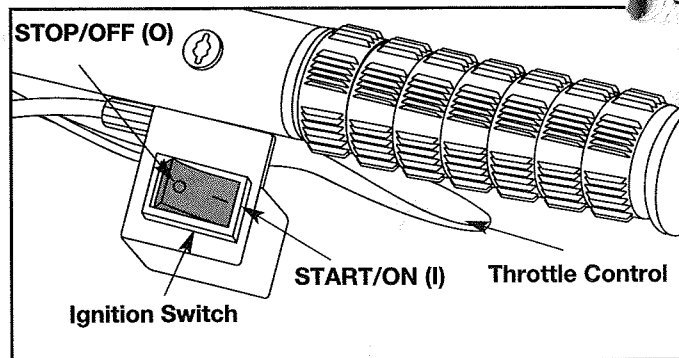
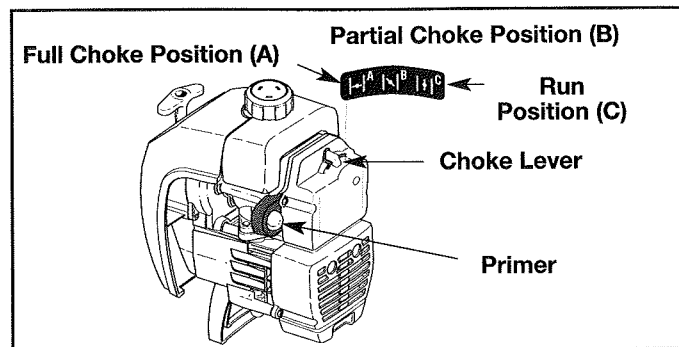
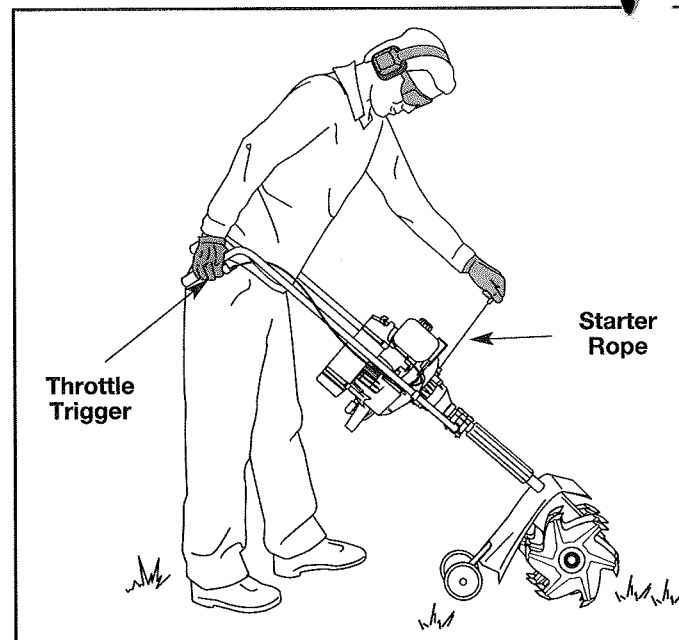

Fig. 15
Fig. 16
Fig. 17
2. Put the ignition switch in the START (I) position (Fig. 15).
3. Fully press and release primer bulb slowly 5 to 7 times. Fuel should be felt and visible in the bulb (Fig. 16). If fuel hasn't entered the bulb, press three more times, or until it does.
4. Place the choke lever in the FULL choke position (A) (Fig. 16).
5. Whilst squeezing the throttle control to the wide open (full throttle) position, grasp the starter rope grip and pull starter rope briskly (Fig. 17). Continue pulling until the engine sounds as though it wants to run (normally 2 to 5 pulls).
6. Place the choke lever in the PARTIAL choke position (B) (Fig. 16).
7. Pull starter rope briskly 1 to 3 times to start the engine (Fig. 17).
**NOTE:** If the engine floods while trying to start, place the choke lever in the RUN position (C). Squeeze the throttle control. Pull the starter rope briskly. The engine should start within three (3) to eight (8) pulls.
9. Squeeze the throttle control to warm up engine for 5 to 10 seconds. Place the choke lever in the RUN position (C) (Fig. 16).
**NOTE:** Choking is unnecessary when starting a warm engine. Put the ignition switch in the START (I) position (Fig. 15), and start in PARTIAL Choke position (B) (Fig. 16).
1. Release your hand from the throttle control (Fig. 17). Allow the engine to cool down by idling.
2. Put the ignition switch in the STOP (O) position (Fig. 15).